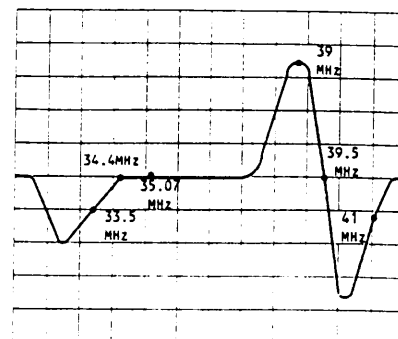

Fig 5.
- 3: Adjust T103 to obtain the waveform same as fig 5.